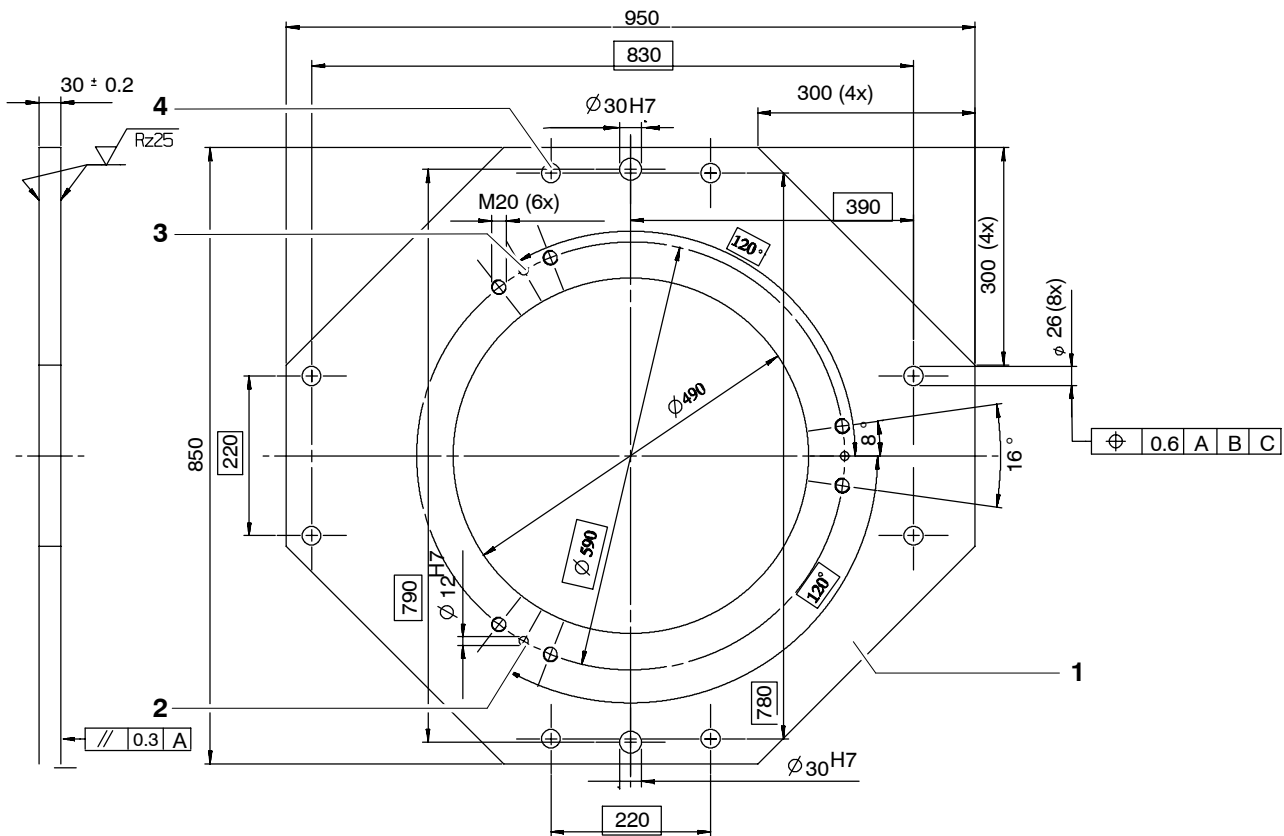

Fig. 50 Manipulator installation, variant 3
- (1) Prepare the substructure in accordance with Fig. 50.
- (2) Bring the adapter plate (1) to the site of installation, set it down and align it.
- (3) Insert eight M25x60 ISO 4017 Allen screws (4) and tighten them with a torque wrench.